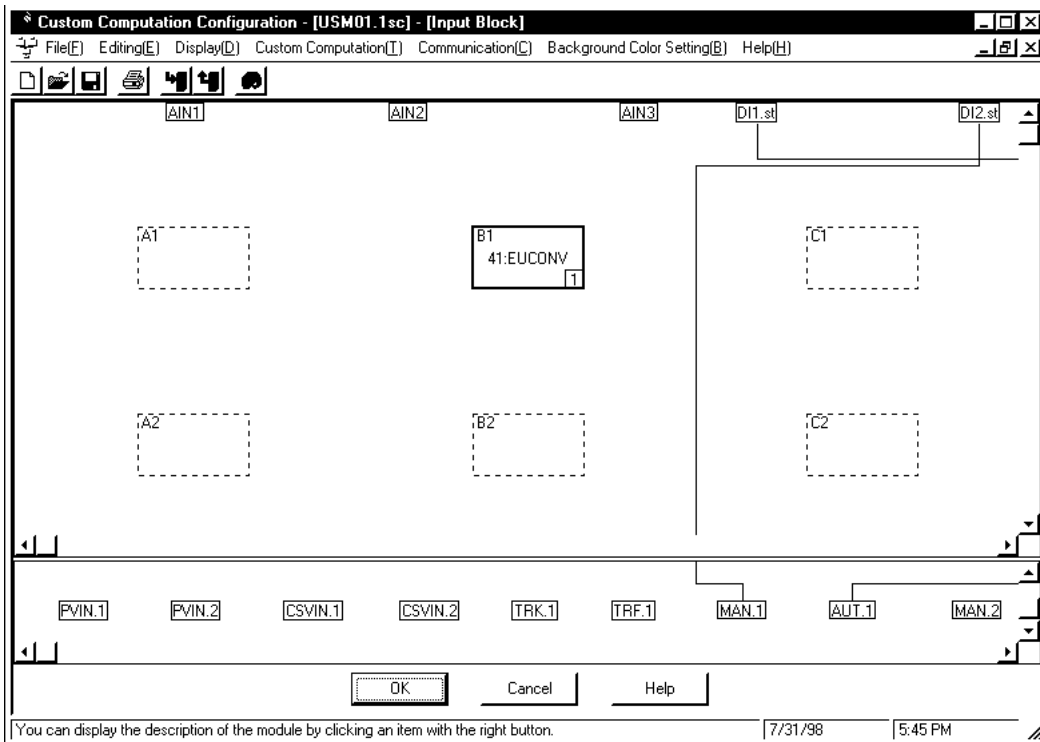

Figure 12.4.4 Example of the [Input Block] Dialog Box where the EUCONV Module Is Registered As the First-run Module
- ③ Click the <Special Calculation> index.
- ④ Double-click <41: EUCONV>. The EUCONV module is registered with the [Input Block] dialog box, as shown in Figure 12.4.4.